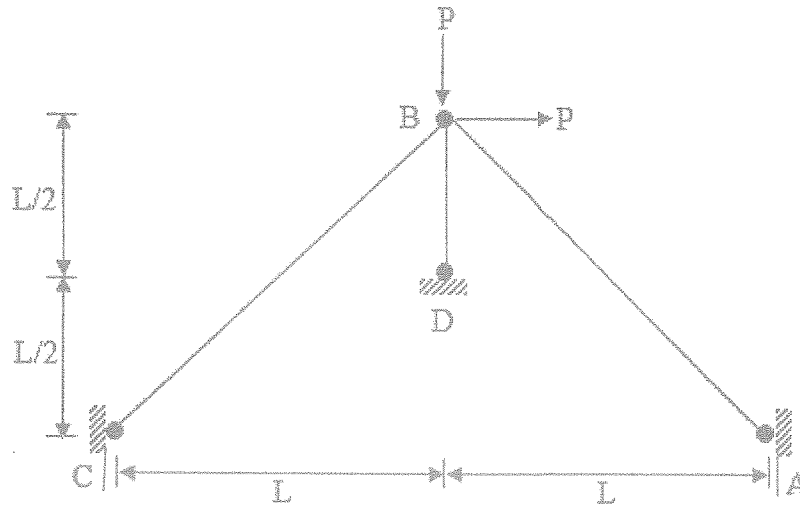

Fig. Q4
- b) i) Identify the type of structure shown in Fig. Q4, and hence determine its static indeterminacy (SI°).
- ii) Using matrix flexibility method, determine all the member forces and the nodal displacement at node 'B' for the structure shown in Fig. Q4. Assume AE is constant for all the members, where A is the cross-sectional area and E is the elastic modulus.